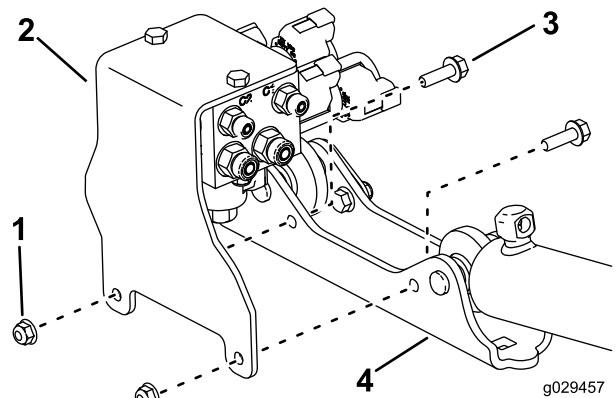

Figure 5
- Remove the valve mount from the cylinder-mount plate (Figure 5).